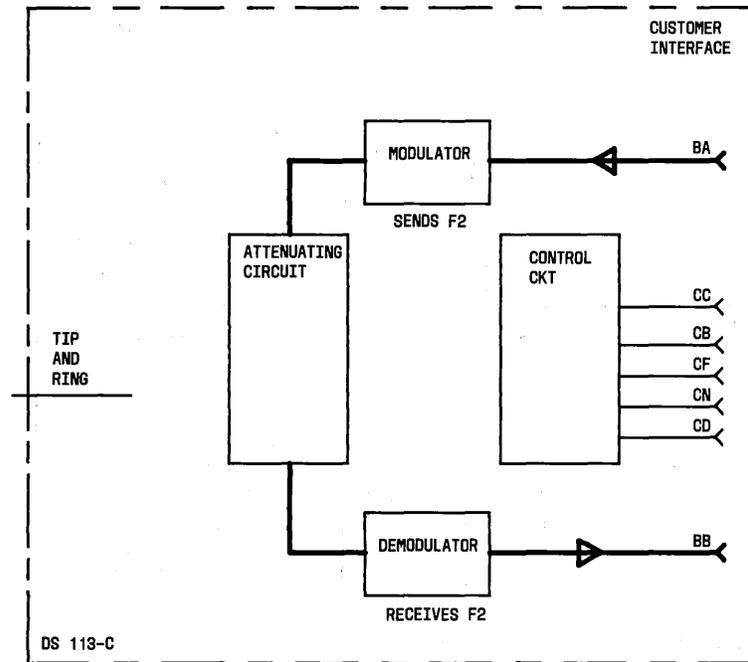

Fig. 1—Analog Loopback Test Mode—Simplified Block Diagram
2.03 In the analog loopback test mode (Fig. 1), the data set is isolated from the telephone line. During this test the data set circuits are modified to keep both the transmitter and the receiver in the f₂ mode. The output of the transmitter is looped via an attenuating circuit to the receiver. During this test, the telephone set and telephone ringer remain functional.